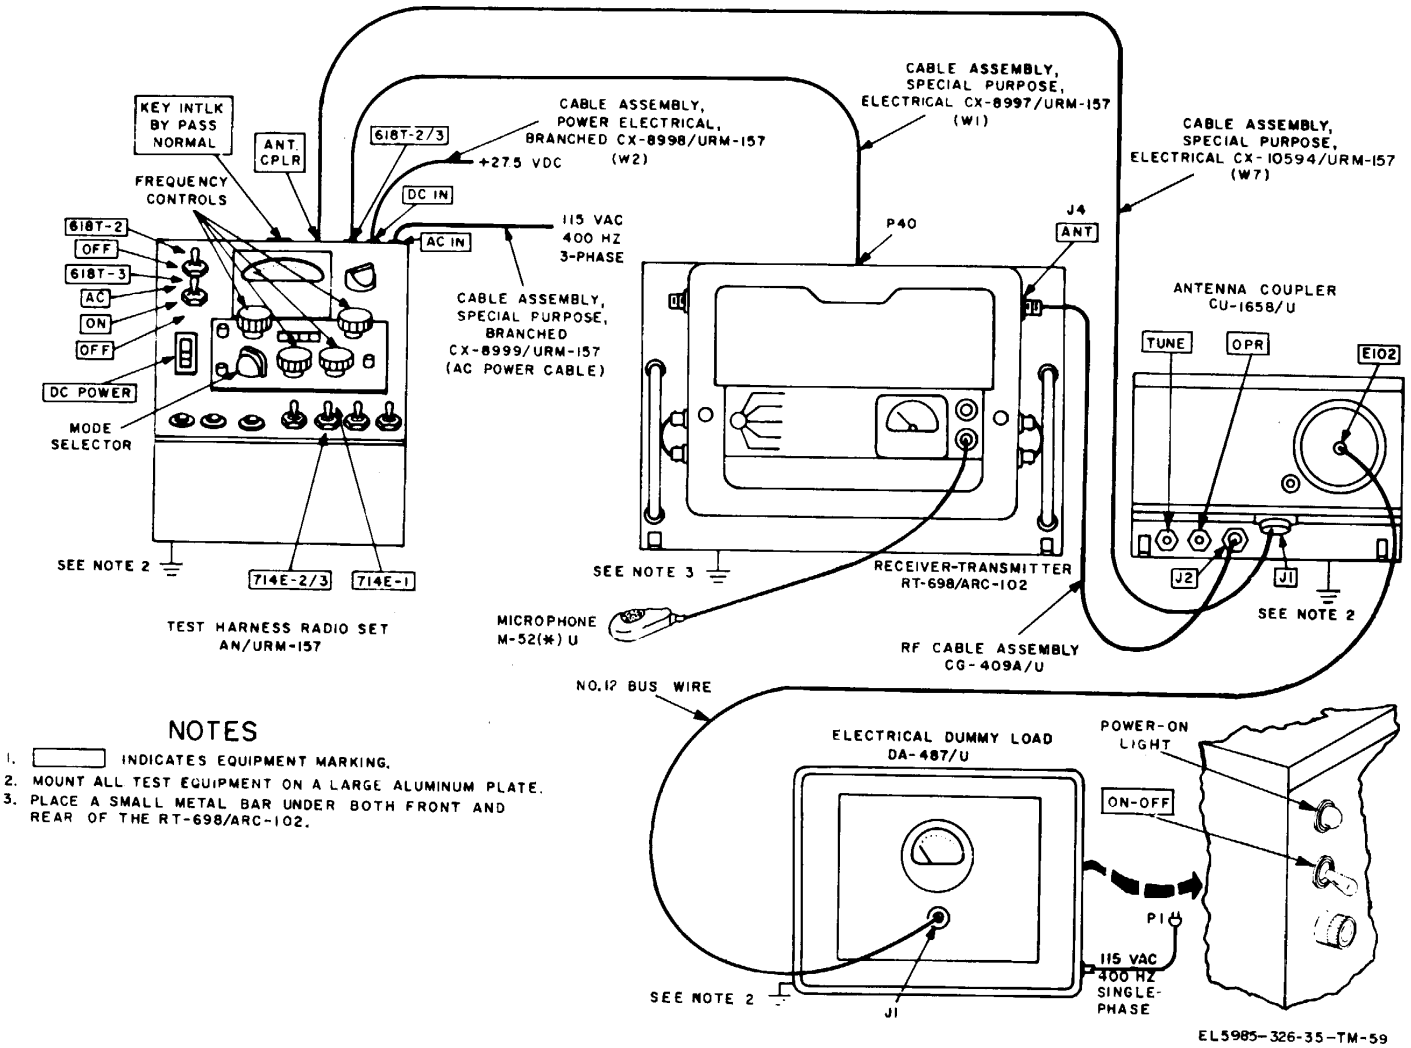

Figure 4-19. Tuning time and voice emission test.
(fig. 4-19)
- (1) Perform the preliminary steps (para 4-48).
- (2) On the dummy load, set the power ON-OFF switch to OFF.
- (3) Connect the dummy load connector P1 to 115-volt ac, 400-Hz, single-phase power (fig. 4-19).
- (4) Make the initial settings (para 4-49).